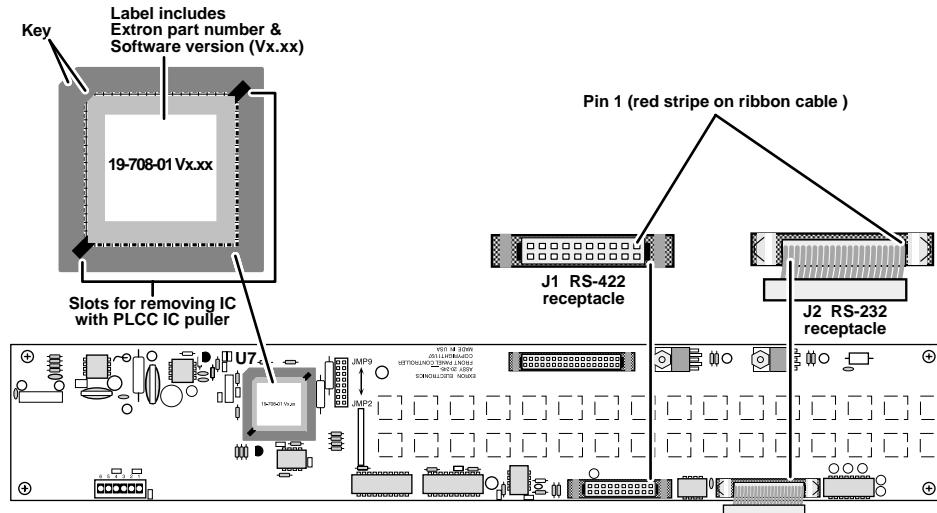

Figure 47 — CrossPoint Plus front panel board
2. Locate the switcher's front panel board (figure 47).
2. Locate the RS-232/RS-422 ribbon cable that connects the front panel board to the rear panel RS-232/422 port (figure 47). Note which receptacle on the front panel board that the RS-232/RS-422 cable plugs into, and remove the cable from its receptacle (see step 4 in “Swapping the serial ports”).
5. Locate IC U7 (figure 47).